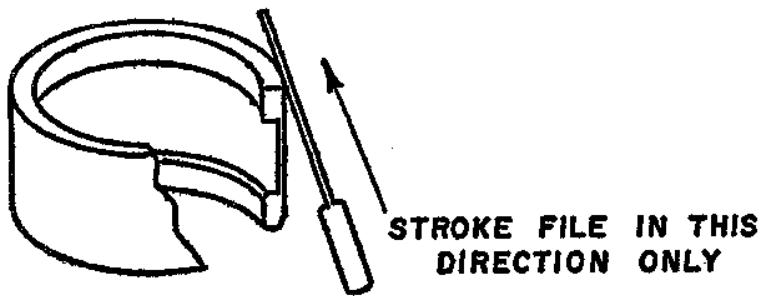

Figure 4
- 8. Now use a flat file to blend the edges of the plastic into the contour of the shell. Stroke the file only in the direction shown by the arrow in Fig. 4.